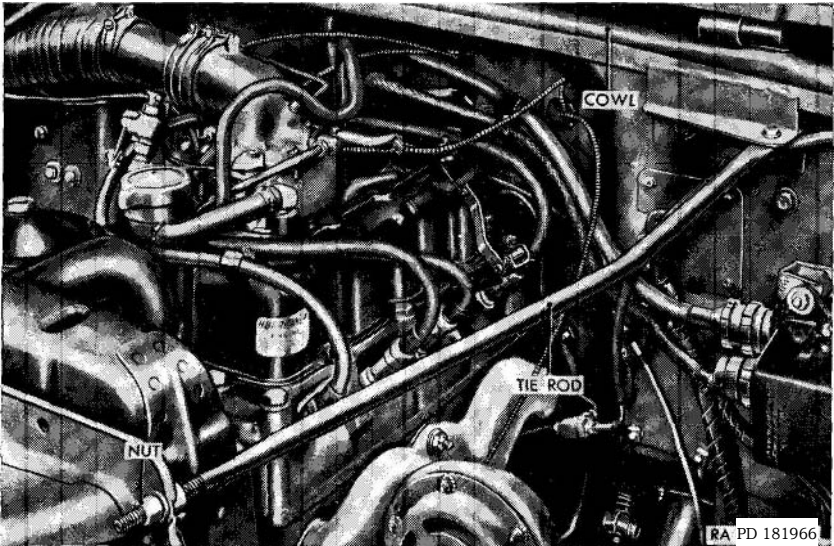

Figure 16.2. (Added) Dash-to-air deflector tie rod M170—installed—left side.
- b. Loosen nuts and slide tie rod (fig. 16.2) out of slot in radiator guard and off bolt and flat washer (fig. 16.3) at front bottom of guard.